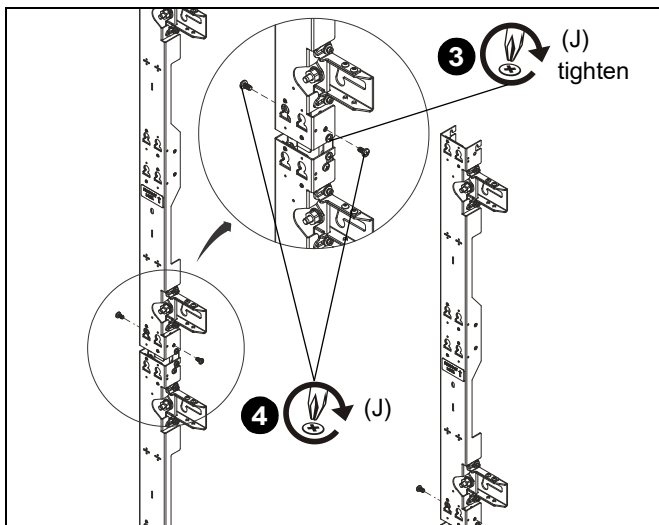

Figure 20
2. Install remaining 1/4-20 x 1/2" Phillips pan machine screws (J) into hole above partially installed screws. (See Figure 20)
3. Tighten partially installed screw (J) to secure additional upright to existing upright. (See Figure 20)
4. Partially install two 1/4-20 x 12" Phillips pan machine screws (F) into middle two holes on middle upright (M). (See Figure 20)